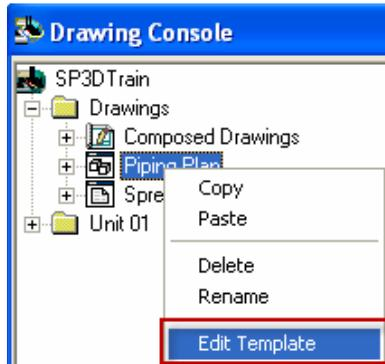

Figure 13: Editing the Template
1. In the **Drawings and Reports** task, under the **Management Console**, right-click the **Piping Plan** component and select the **Edit Template** option, as shown in Figure 13.